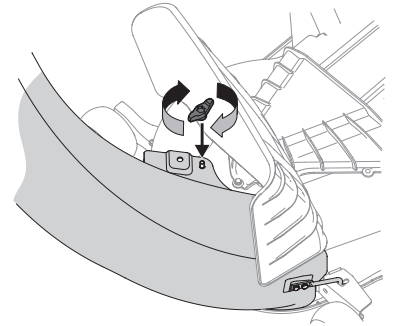

Figure 21
6. Secure the boot elbow to the cutting deck using a wing knob (720-04122) included in hardware pack 689-02364. Refer to Figure 21.